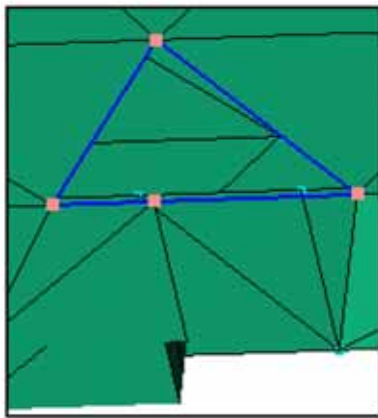

Figure 147: Fill hole node selection 1
- 5.1. Select the 4 nodes shown in Figure 147, forming a triangle on the top of the part.